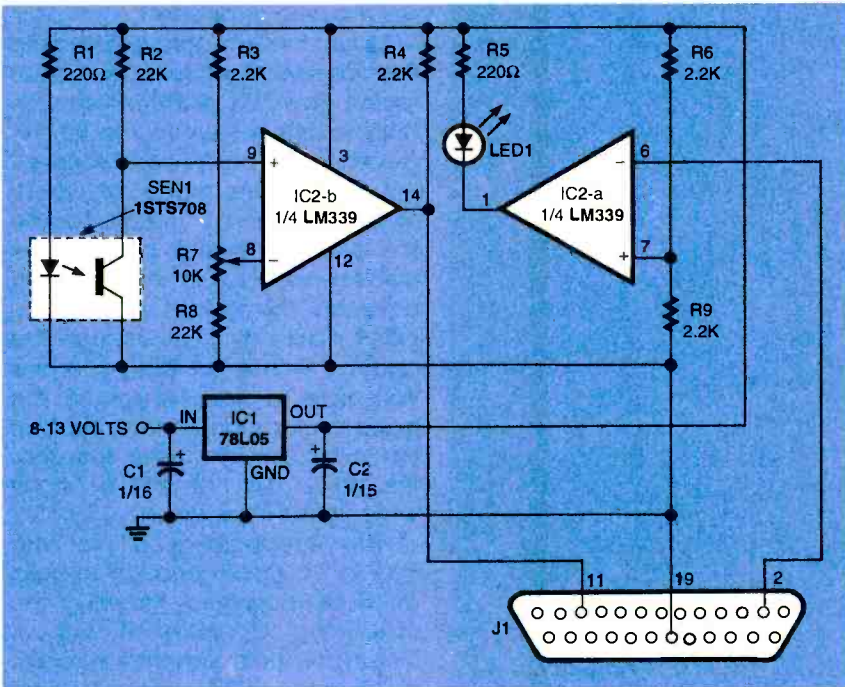

Fig. 3. The InfoCard's circuit is built around a reflective optical sensor (SEN1) and a comparator (IC1).
**Circuit Description.** As you can see in the schematic diagram shown in Fig. 3, the interface circuit for the InfoCard is quite simple and straightforward. Reflective IR sensor SEN1 contains a matched IR diode and an IR detector in a single case. The current for the IR diode is limited by R1; R2 is a pull-up resistor for the collector of the detector. That lets a
The interface circuit for the InfoCard is simple enough to build on a perfboard by following the schematic diagram in Fig. 3. Component placement is not critical. In place of SEN1, make a cable from three equal lengths of insulated wire that will be able to reach from the board to SEN1. Make note of which wires will be connected to the various pins on SEN1.
A second three-wire cable will be used to connect the InfoCard to the PC. Again, three equal lengths of 22- or 24-gauge stranded wire are used. Connect them to pins 2, 11, and 19 of a 25-pin connector. The other ends of the wires connected to pins 2, 11, and 19 are connected to the circuit according to Fig. 3.